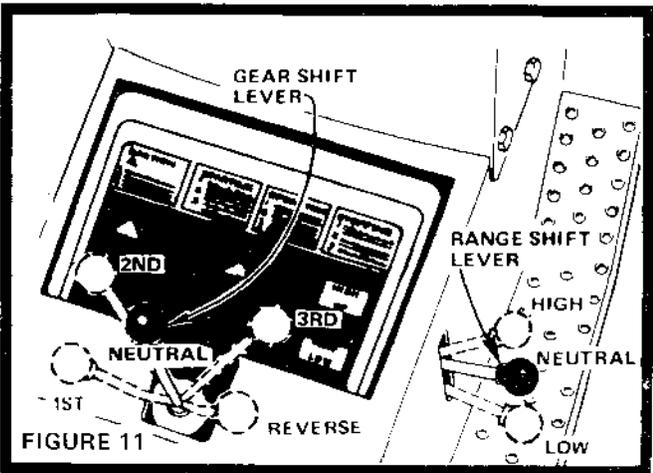

FIGURE 11
3. Place Gear Shift Lever in neutral "N" position (Fig. 11).
4. Move Range Shift Lever to "N" neutral position (Fig. 11).
For pushing or towing your tractor, place Gear Shift Lever and Range Shift Lever in "N" (Neutral) position (Fig. 11). NOTE: DO NOT TOW YOUR TRACTOR FASTER THAN SIX MILES PER HOUR.